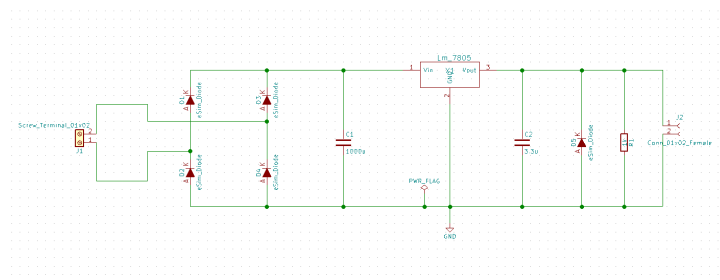

Figure 14.2: Schematic after adding connectors and removing the probes and sources.
- Modify the circuit schematic as shown in Fig. 14.2. The two pin female connector (`Conn_01x02_Female`) is placed for the taking the 5V output supply meanwhile a 2